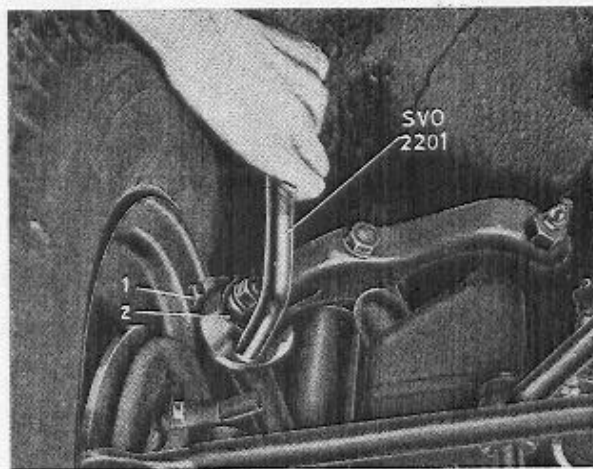

Fig. 36.
Caster should be $-3/4^\circ$ — $+1/4^\circ$. It is adjusted by loosening the clamp bolt (1, fig. 36) and then turning the eccentric bushing (2). Use wrench SVO 1411 B if the bushing is early production with a width across flats of 28.5 mm ($1\frac{1}{8}$ "") and wrench SVO 2201 if the bushing is late production with a width across flats of 34.3 mm ($1\frac{11}{32}$ ""). One complete turn alters the angle by $1/2^\circ$. N.B. If the wheel has the correct camber, one complete turn must be given since otherwise the camber will be altered. Tighten the clamp bolt before checking the caster.
After caster has been checked, adjust camber. This should be $-1/4^\circ$ — $+1/2^\circ$. It is adjusted by loosening the clamp bolt and turning the eccentric bushing with wrench SVO 1411 B and SVO 2201 (fig. 36). Alteration of camber also means a slight alteration of caster but this is negligible.